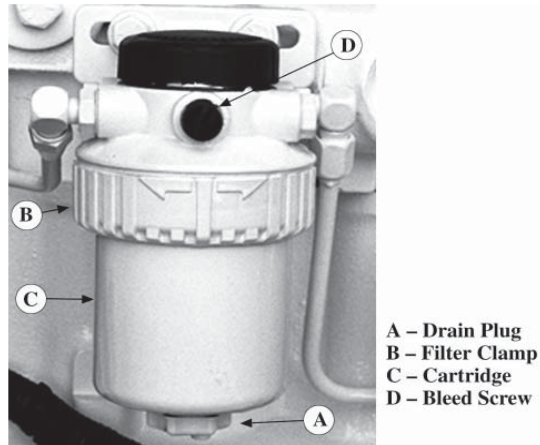

Figure 17: Secondary Fuel filter
- b. Open the filter drain plug (*Figure 17-A*) and drain the filter.
- c. Remove the secondary fuel filter by turning the filter clamp (*Figure 17-B*) counter clockwise until the filter cartridge (*Figure 17-C*) slides out.
- a. To bleed the fuel system, loosen the bleed plug (Figure 17-D) on the fuel filter.